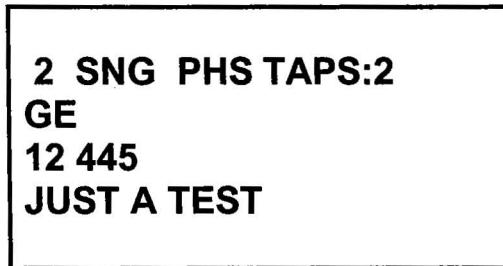

Figure 22-1. Test Plan Identification Menu
- b. Origin:** This menu is shown after the user pressed “ENTER” from menu shown in figure 22-1.
- c. Action Option:** Press key 1 to use test plan. Press key 2 to run test without test plan.